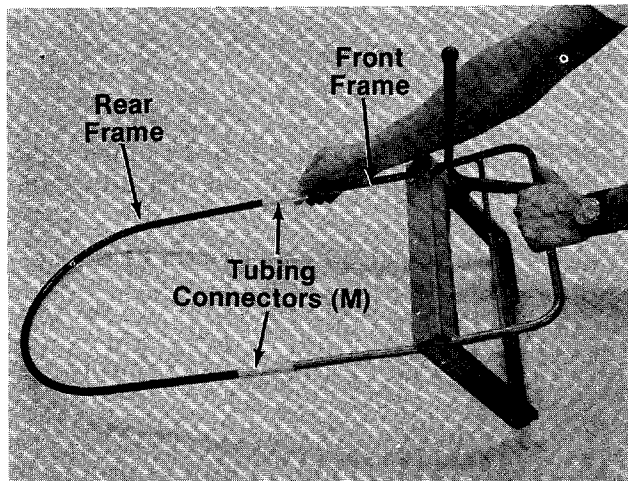

FIGURE 9.
1. Connect the front and the rear frames by pushing the tubing connectors (M) onto the ends of the frames. See figure 9. ←